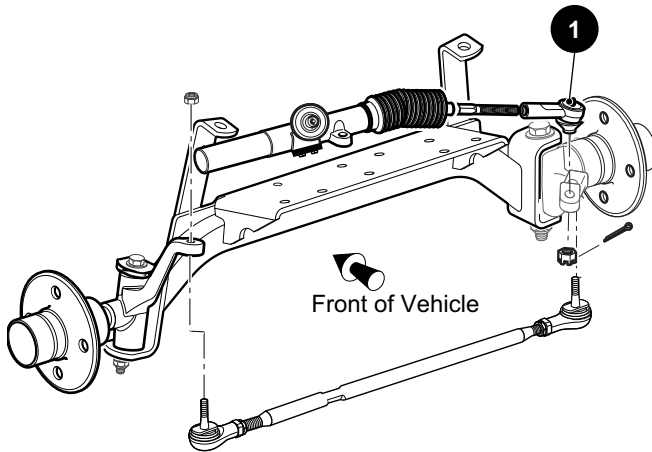

Figure 1 Lubrication Points
Grease the rack ball joint (1). Wipe off old grease and dirt from the grease fitting and do not use more than three (3) pumps of grease in any grease fitting. Wipe off any grease that is forced out of rubber boot (Ref. Figure 1).